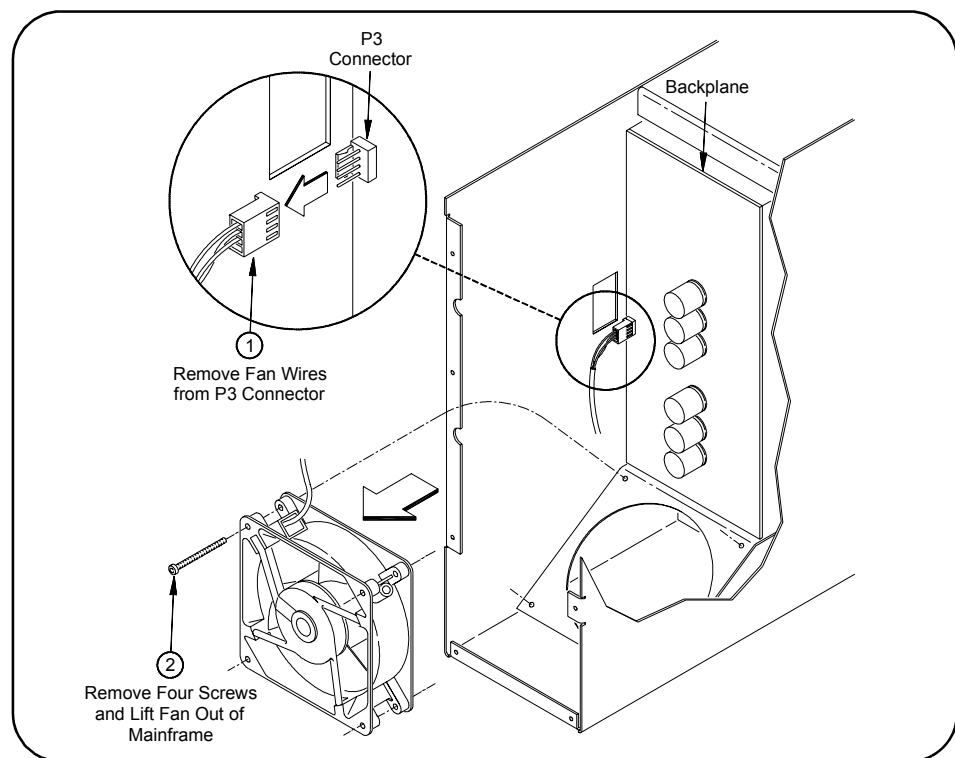

Figure 3-5. Removing the Fan Assembly
This section gives guidelines to replace the Fan Assembly in the 1266 mainframe (see Figure 3-5). See Table 3-1 for a replacement part number.
- 4 Remove the Fan Assembly by following the steps in Figure 3-5.
- 5 Install the replacement fan assembly by reversing the steps in Figure 3-5.